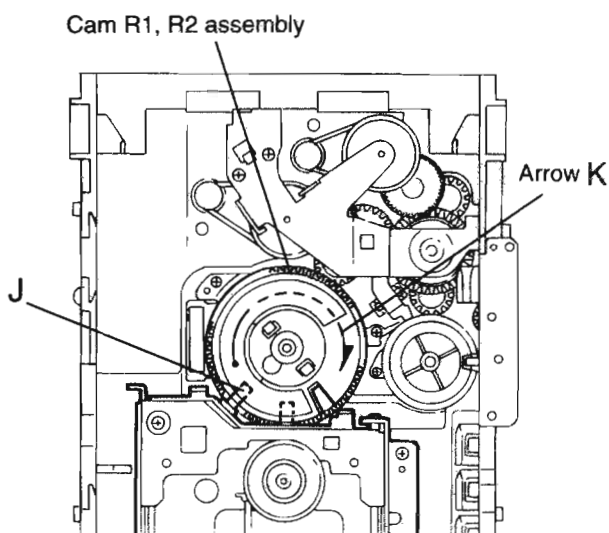

Fig.11
**Removing the CD traverse mechanism (See Fig.11 and 12)**
1. For dismantling only the CD traverse mechanism without removing the CD loading mechanism assembly, align the shaft "J" of the CD loading mechanism assembly to the position shown Fig.11 while turning the cam R1 and R2 assembly in the arrow direction "K" .
### ■ Removing the Reel Pulse P.C.Board and Solenoid (See Fig 11)